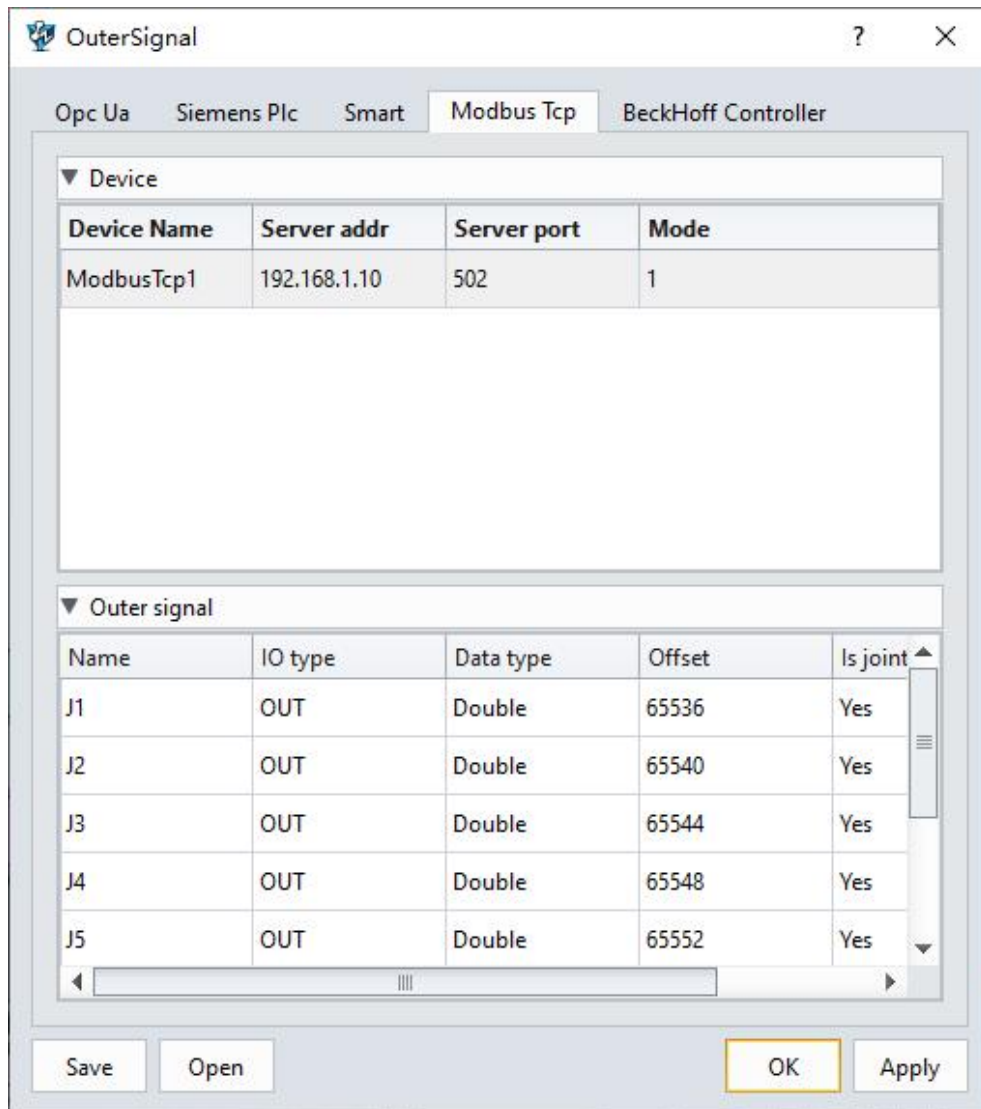

Figure 12-15: Joint signal completed
- Repeat step 5 for the remaining joints, naming them "J2" to "J6", selecting "Double" for the signal type, "OUT" for the IO type, "Yes" for the joint, and offset addresses incrementally increasing by 4 (eg: 65540, 65544). (Figure 12-15)